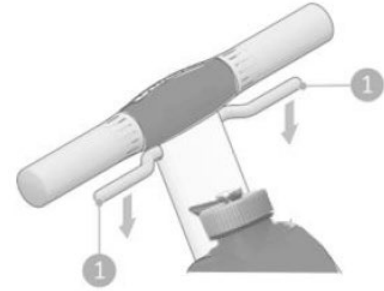

Fig. 12
1. Releasing the trigger (Figure 12, pos 1) will automatically stop the i-mop@Lite.